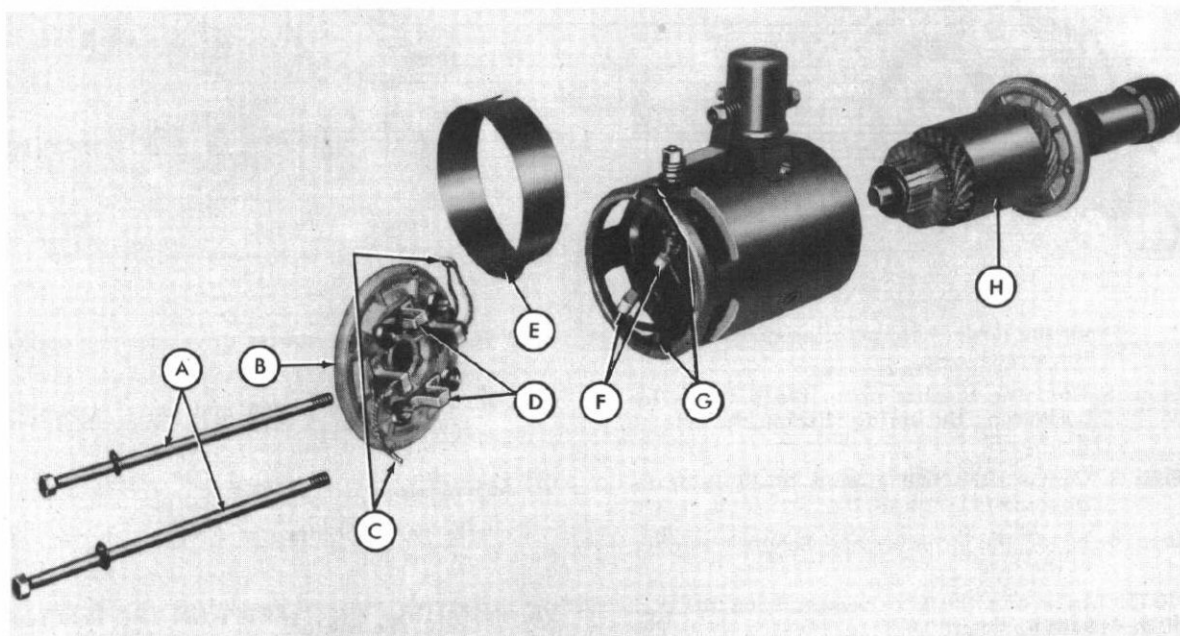

Fig. 1
- Step 1—Remove the two long bolts (A-Figure 1).
- Step 2—Remove the armature and the bendix assembly (H-Figure 1) as a unit.
- Step 3—Remove the cover band (E-Figure 1) from the starter case.
- Step 4—Remove the brush end plate assembly (B-Figure 1).
(F-Figure 1) from the brackets (D-Figure 1) in the brush end plate.
- b. Remove the two screws (G-Figure 1) that hold the ground brushes (C-Figure 1) to the starter housing.